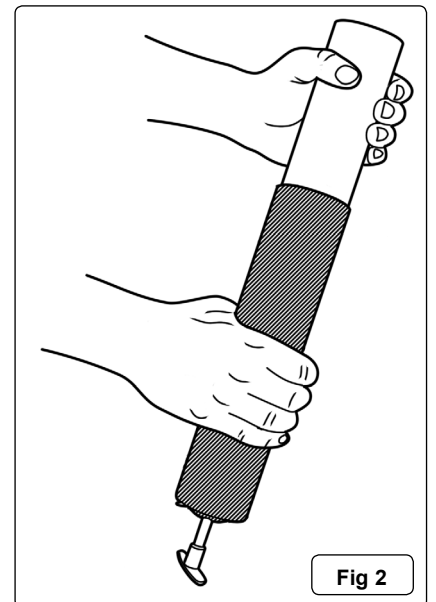

Fig 2
- 3.3.3 Insert the open end of the cartridge into the grease tube and push it all the way in (Fig 2). Remove the seal or pull tab end from the cartridge.